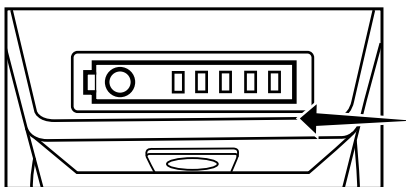

Fig. 3
- When the battery is fully charged there will be four (4) green lights and one (1) red light showing (Fig. 3).
- As the battery is discharged during use, the number of green lights showing will reduce from four (4) to none (0).